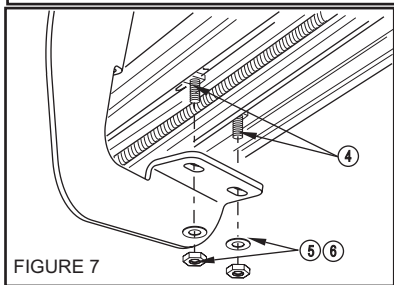

FIGURE 7
STEP 7. Attach board to brackets as shown. Make sure board and brackets are properly aligned and tighten fasteners. Recommended torque values are 10 FT.LBS. for 5/16" square head fasteners, 23 FT. LBS for 8MM fasteners and 19 FT.LBS. For factory 8MM fasteners. **SEE FIGURE 7. NOTE:** For lighted version of Molded Step Board, remove plastic cover from each end of under side of board. Proceed to Steps 4-5.